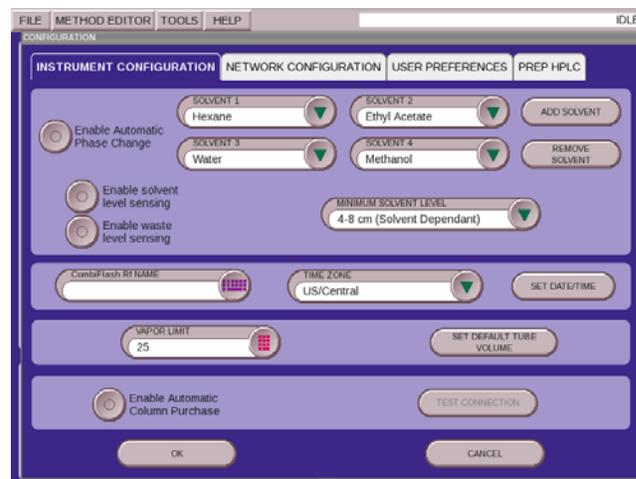

Figure 3: Solvent line numbers assigned to the solvent names
4. To deactivate the Automatic Phase Change simply press the **ENABLE AUTOMATIC PHASE CHANGE** button a second time. Note that the labels above the solvent name now display the solvent line numbers (Figure 3).